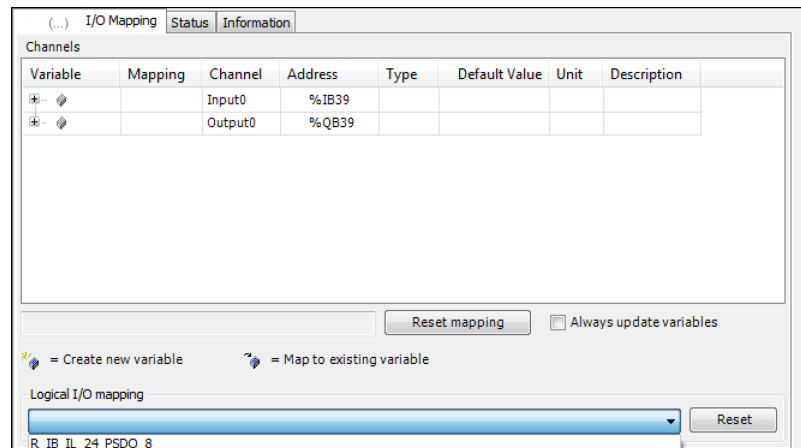

Fig. 25: Example: '(...) I/O Mapping' standard device tab with opened "Logical I/O mapping" combo box
5. Select the appropriate logical I/O from the list that opens (see Fig. 25)